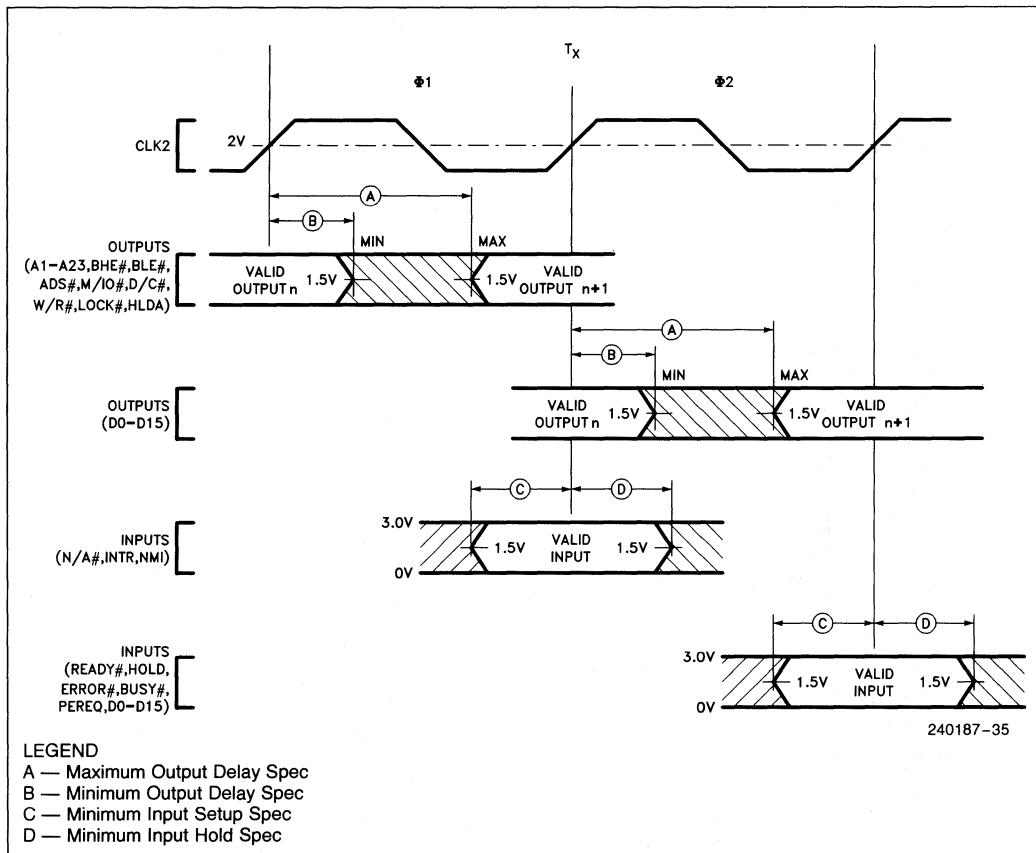

Figure 7.1. Drive Levels and Measurement Points for A.C. Specifications
A.C. spec measurement is defined by Figure 7.1. Inputs must be driven to the voltage levels indicated by Figure 7.1 when A.C. specifications are measured. 80386SX output delays are specified with minimum and maximum limits measured as shown. The minimum 80386SX delay times are hold times